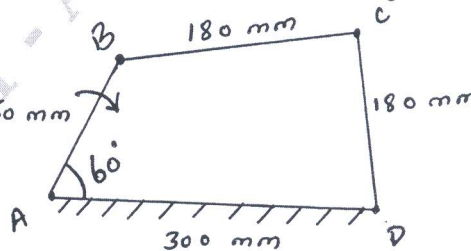

Fig Q5(b)
b. In a pin jointed four bar mechanism as shown in Fig Q5(b),  $AB = 150\text{mm}$ ,  $BC = CD = 180\text{mm}$  and  $AD = 300\text{mm}$ . The angle of  $BAD = 60^\circ$ . The crank  $AB$  rotates uniformly at  $100\text{rpm}$ . Locate all the instantaneous center and find the angular velocity of the link  $BC$ .